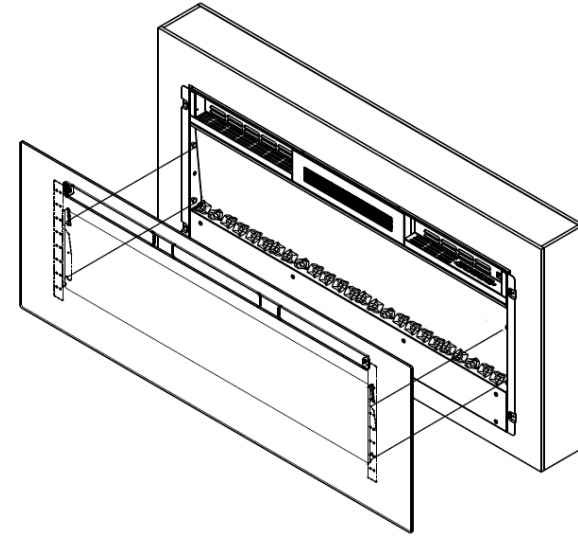

Fig.3
- Place the front glass surround over the front of the fire aligning the slots in the bracket at each side of the glass panel with the lugs on the sides of the fire; See Fig.3